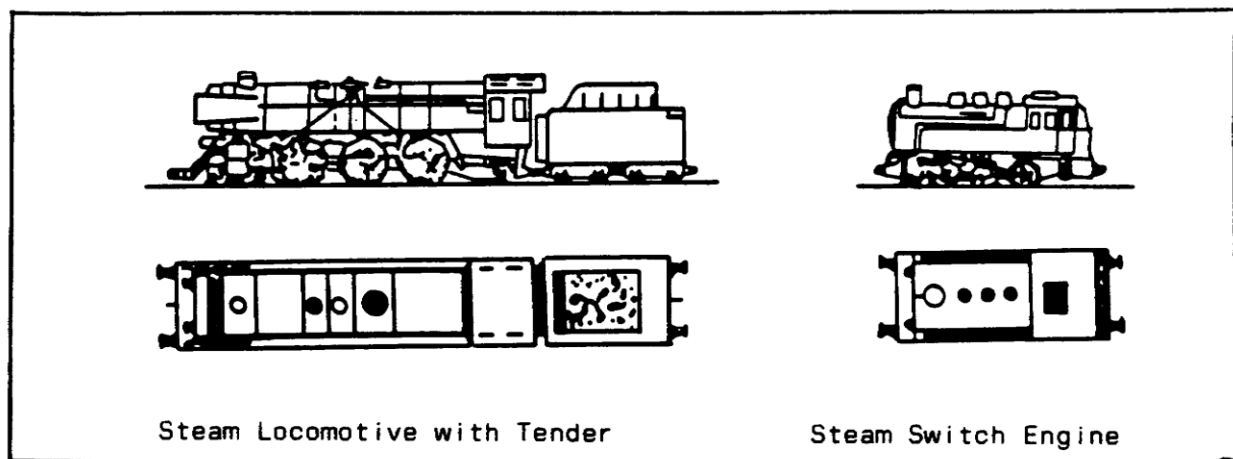

Figure 1-26. Steam Locomotive and Engine.
(1) Steam locomotives can frequently be recognized by an uneven appearance caused by cabs, stacks, steam and sand domes, bells, and tenders. There is a trend towards streamlining which is resulting in a smoother, more rounded top and side surfaces; consequently, this would eliminate some important identification features. A small car, called a tender, is identifiable immediately behind steam mainline or switch engines (Figure 1-26).